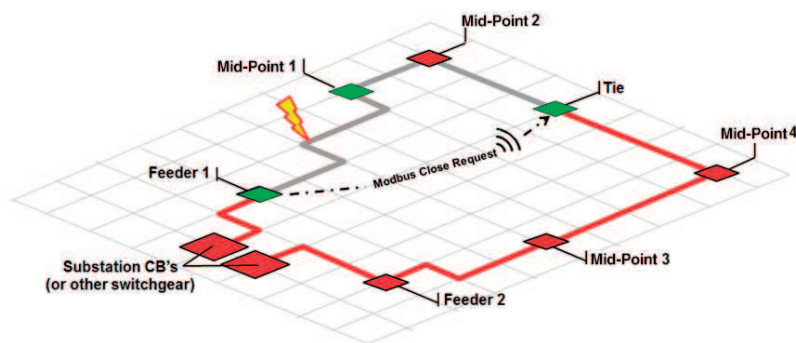

Figure 62. Fault between Feeder 1 and Mid-Point 1 Devices with Message Tie Control
This example explains how Loop Automation with Message Tie Control handles a permanent fault between the Feeder and a Mid-Point Device as shown in Figure 62.
- Feeder 1 Device sends a trip request to its downstream Mid-Point 1 Device and a close request to the Tie Device using Modbus P2P communications as shown in Figure 62